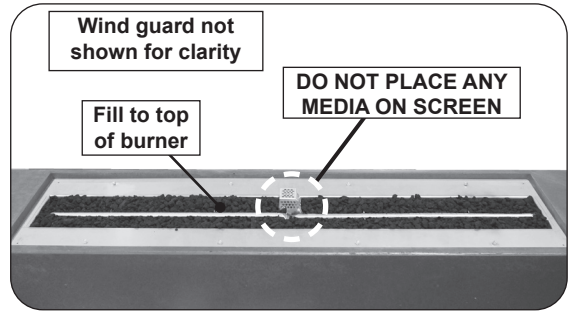
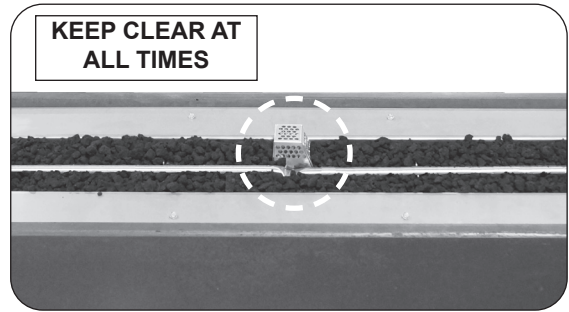

Fig. 28-1 Place lava granules
Fig. 28-2 Screen detail
1. Pour the 10 lb bag of lava granules into the burner area (with the exception of the screen). Spread the granules within the burner area as shown in Fig. 28-1 and Fig. 28-2. **Only fill the granules up to the top of the burner tube.**